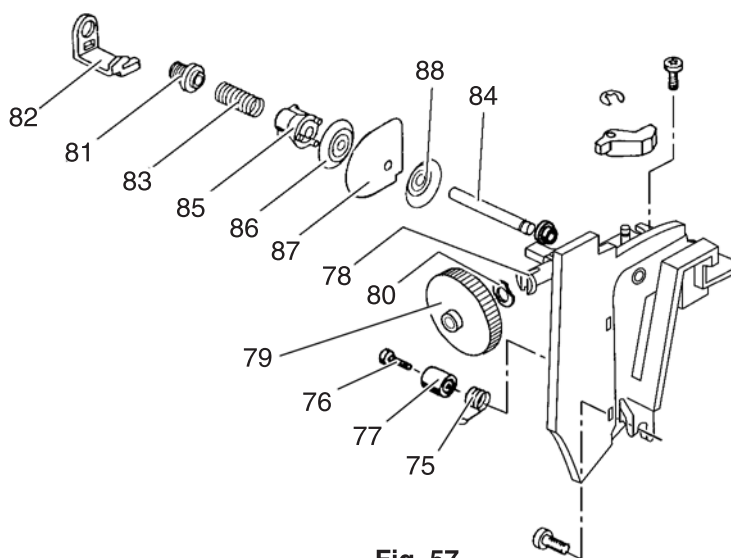

Fig. 57
- Press the two plastic noses 78 together and remove tension dial 79 (fig. 57).